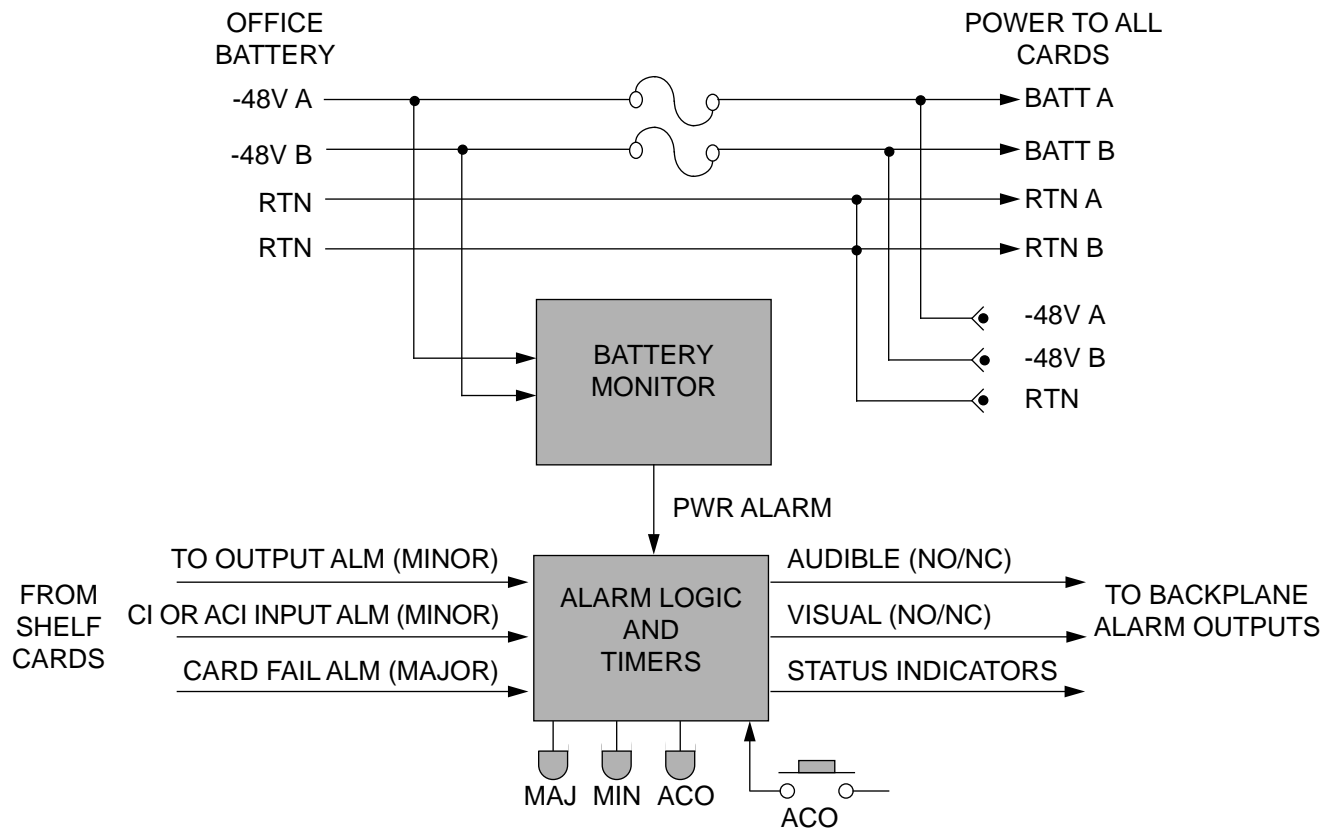

Figure 7. AI Card Block Diagram
4.01 The Alarm Interface (AI) card (Figure 7) monitors input power from two -48V dc office batteries. Front panel jacks allow testing of A and B supplies at the input to the shelf. The -48V is passed to the CI (or ACI), ST2, TOxA, SCIU, and Matrix Controller cards, each of which contains a dc-to-dc converter to provide its own regulated dc voltages.